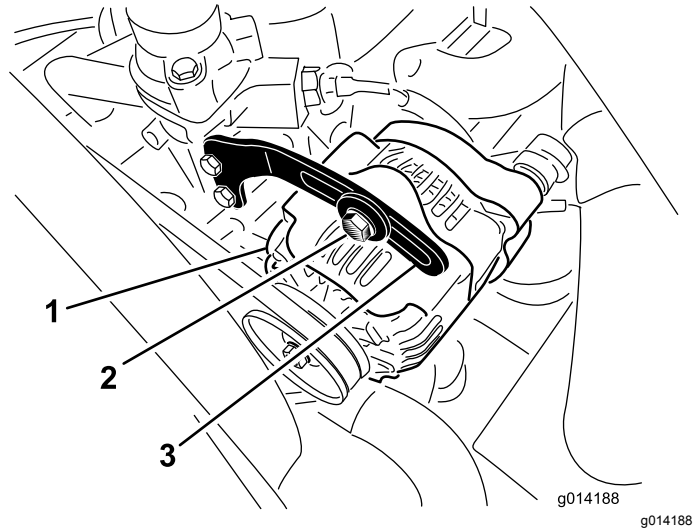

Figure 45
2. Check the tension of the alternator belt by pressing it (Figure 45) midway between the alternator and the crankshaft pulleys with 10 kg (22 lb) of force.
3. Loosen the bolt securing the brace to the alternator (Figure 45) and the alternator pivot bolt.